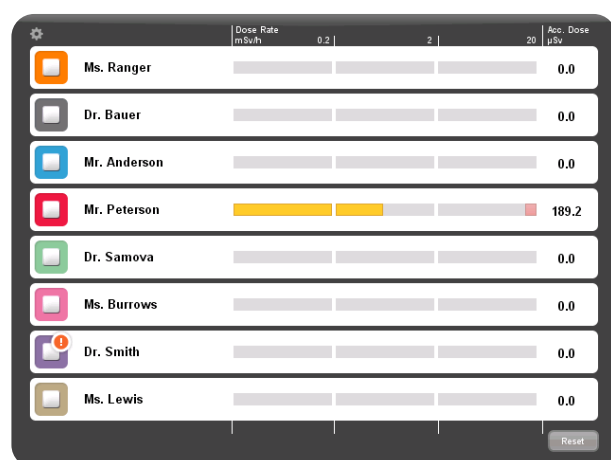

Figure 16. The Real-time Display online view.
2. Expose the dosimeter to scattered radiation by placing the dosimeter outside the primary beam, close to a phantom which is placed in the X-ray field. Verify that the Real-time Display shows a dose rate bar instantaneously, updating once per second (Figure 16).